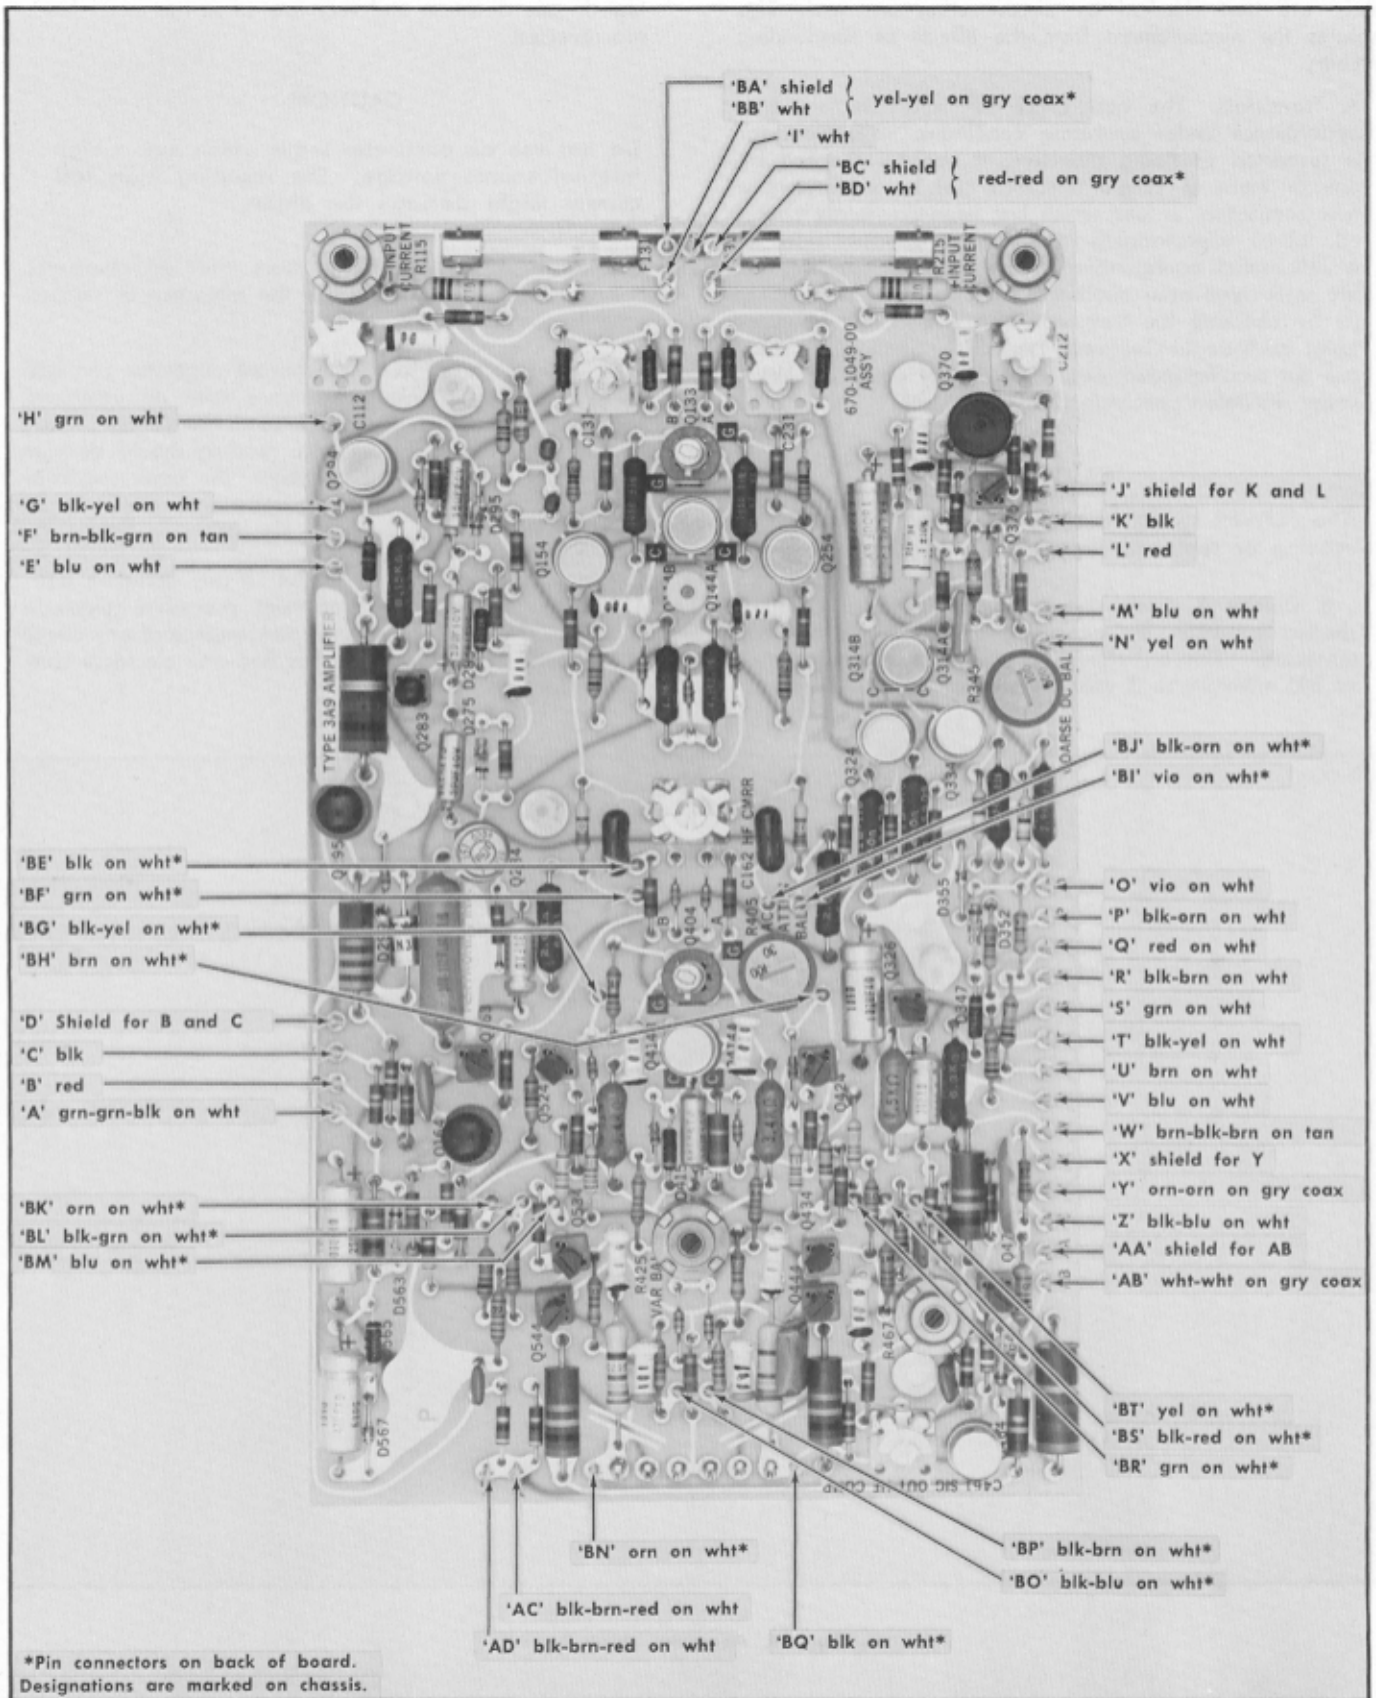

Fig. 4-5. Amplifier circuit board (wire color code).
4. Clean the flux from the solder joint with a flux-remover. As a guide, correct connections of the wires are shown in Figs. 4-5 and 4-6. When reconnecting the pin connectors, use care in mating the pins so the connectors are not damaged or enlarged.